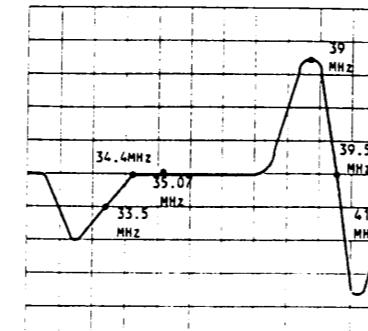

Fig 5.
- Adjust T103 to obtain the waveform same as fig 5.